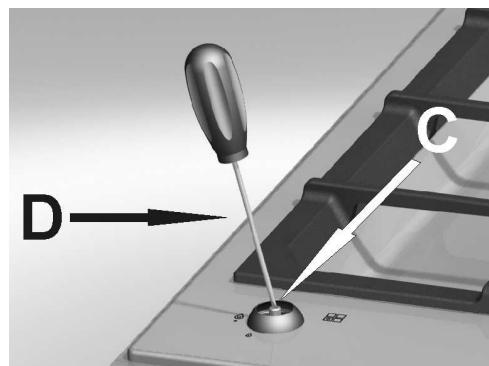

FIG. 13
- Remove knob "M" (fig. 13) of the tap, which is simply pressed on to its rod.
- Insert a small screwdriver "D" into hole "C" (fig. 13) and turn the throttle screw to the right or left until the burner flame has been adequately regulated to the "Reduced rate" position.